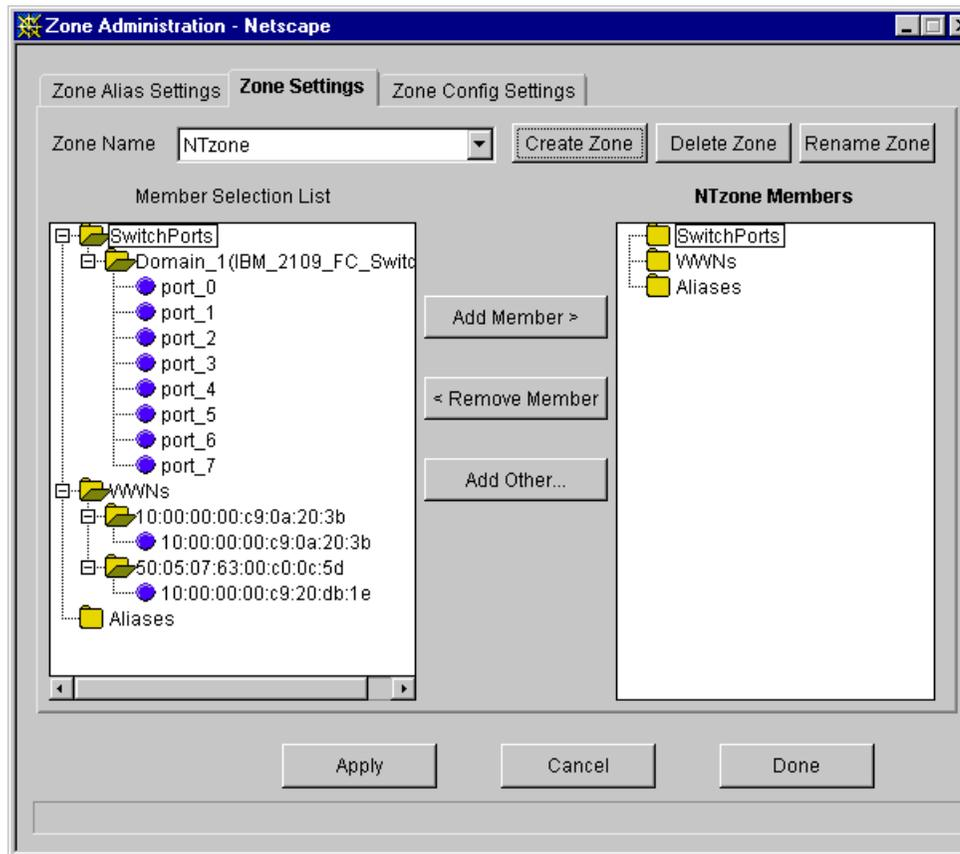

Figure 136. NTzone creation
4. We created the first zone and named it "NTzone", restricting storage access to the Netfinity host. This is shown in Figure 136.